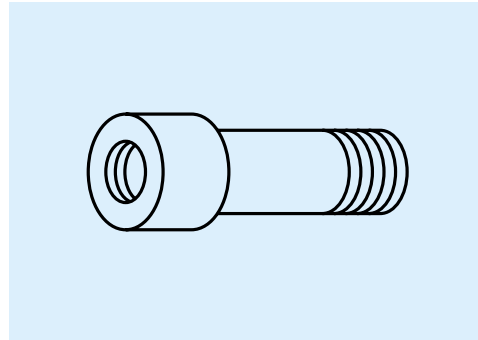

Fig. II-5-5 Connector
- When attaching a grease fitting to the end cap after the protector is equipped, you require a connector shown in Figure II-5-5. Please specify the connector set when ordering linear guides.